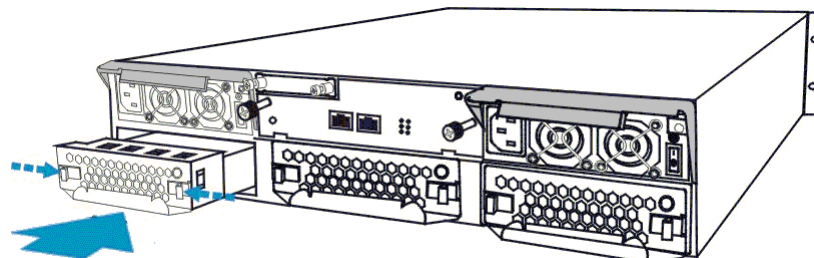

Fig. 2.2 Installing the new Cooling Module
2. Install the new cooling module by aligning the module with the cooling module slot on the lower section of the PSU module and gently sliding it in. Do not slam the module into place. Doing so may damage the back-end connector on the module. When properly inserted, the latches will hold the module in place. (See Figure 2.2)